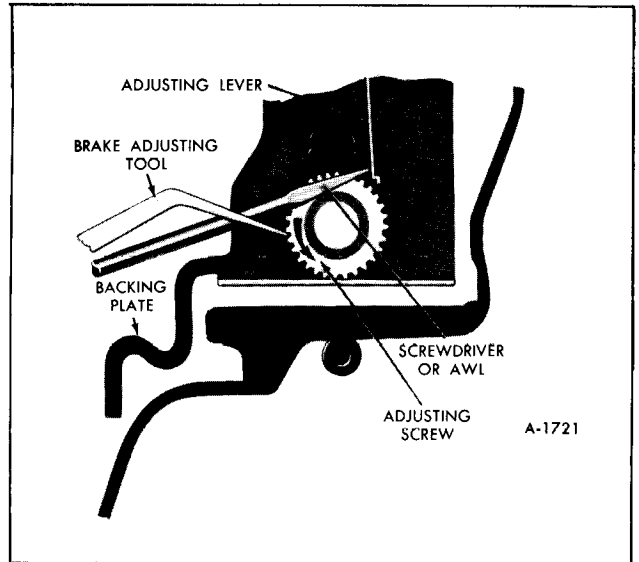

Figure 7-Backing Off Brake Adjustment
2. Back off brake adjusting screw (figure 7) at each wheel 30 notches. If shoes drag lightly on drum,
**NOTE:** It may be necessary to back off the brake shoe adjustment before the brake drum can be removed. To back off brake shoe adjustment, refer to Figure 7.